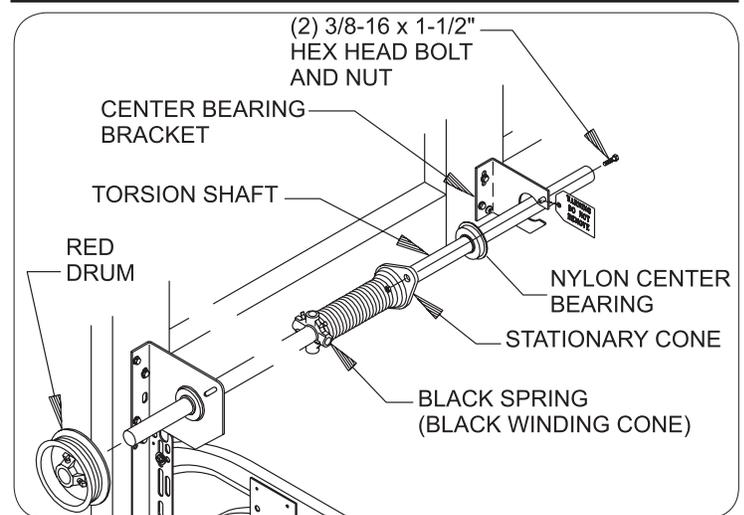

FIG. 11.1
Lift the torsion shaft off the floor. Slide one end of the shaft through the end bearing fixture. Extend the shaft through the bearing until the opposite end of the shaft can be inserted into the other fixture. Equalize the amount that the shaft protrudes on each side. Slide the nylon center bearing into the end of (1) spring and align the stationary spring cone(s) with the holes in the center bearing bracket. Secure the spring(s) to the center bearing bracket using (2) 3/8"-16 x 1-1/2" bolts and nuts. Slide the red drum over the left end of the shaft as shown (inside looking out) and the black drum over the right end of the shaft, as shown in **FIG. 11.1**.